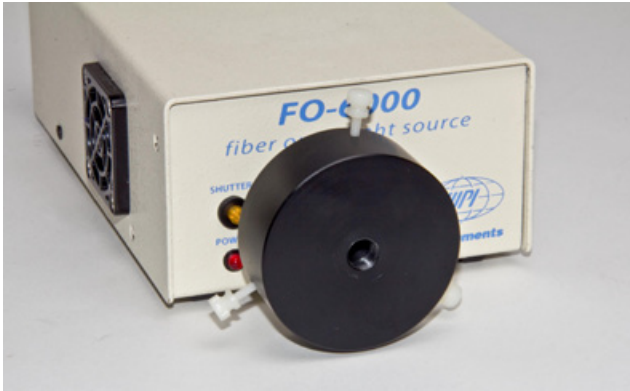

Fig. 7—When the housing is installed, secure it with the white screws.
7. Orient the housing as desired and slide it over the collar. Tighten the nylon case locking screws finger tight to secure it in place. (Fig. 7.)